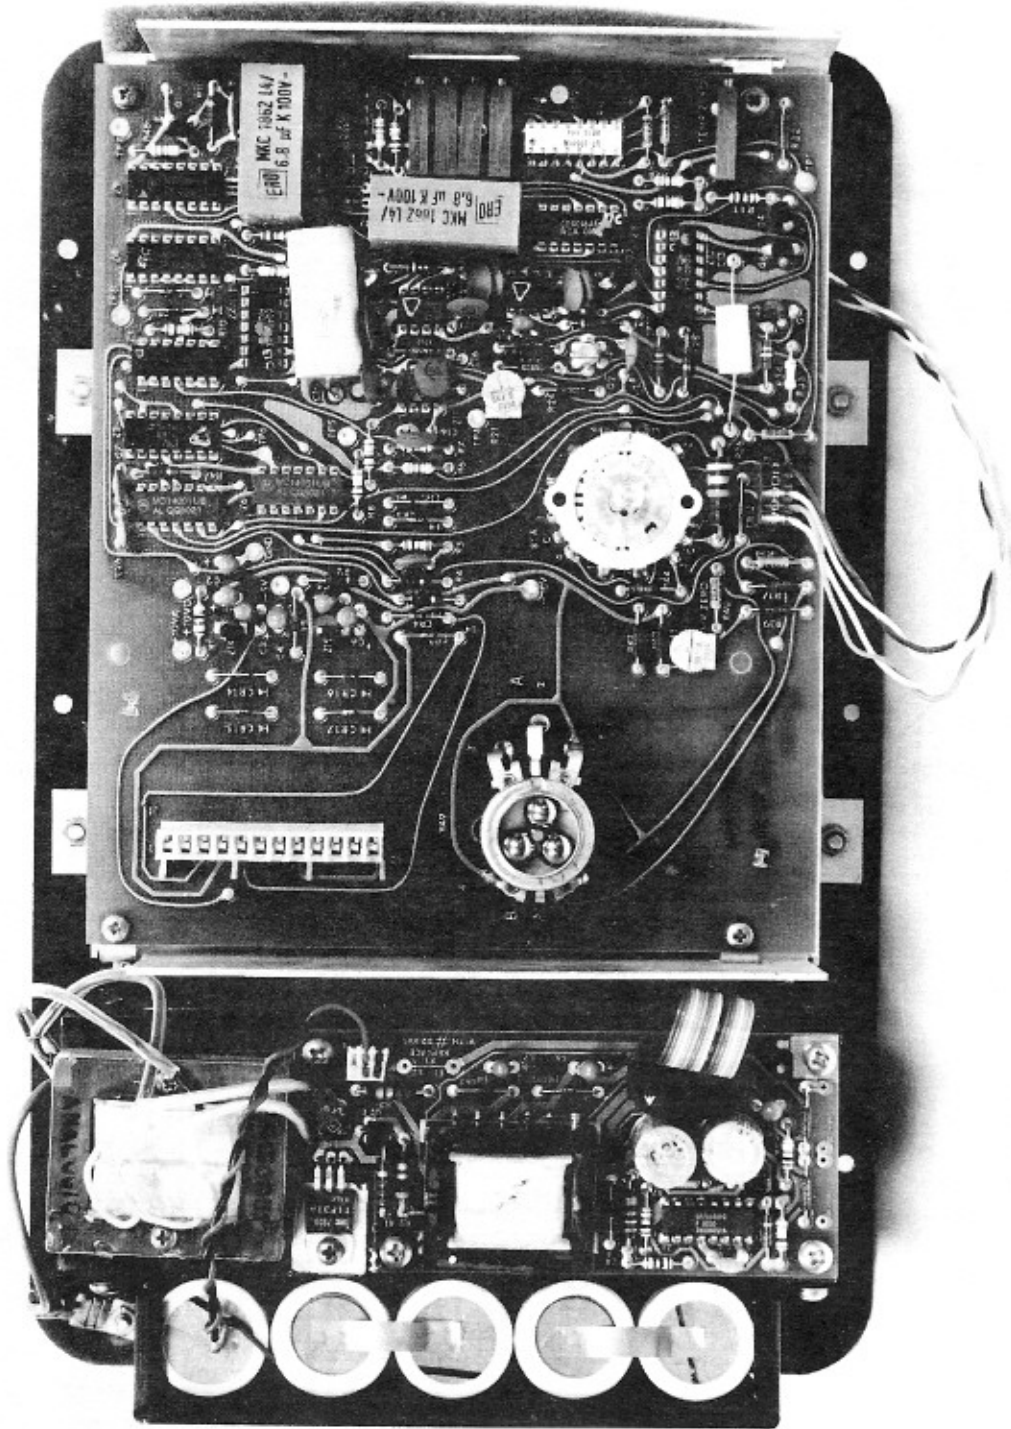

Figure 4-2. Replacement of Power Supply PC Board
4.3.3 Replacement of Power Supply PC Board (Refer to Figures 4-2 and 4-2A)
4.3.4 Replacement of Analog Board (Refer to Figure 4-2 and 4-2A)
5. When re-installing the board, be sure that the switch key is lined up as shown in Figure 4-2., and that the mode switch is set to OFF.
4.3.5 Replacement of Digital/Display Board (Refer to Figures 4-2 and 4-3)